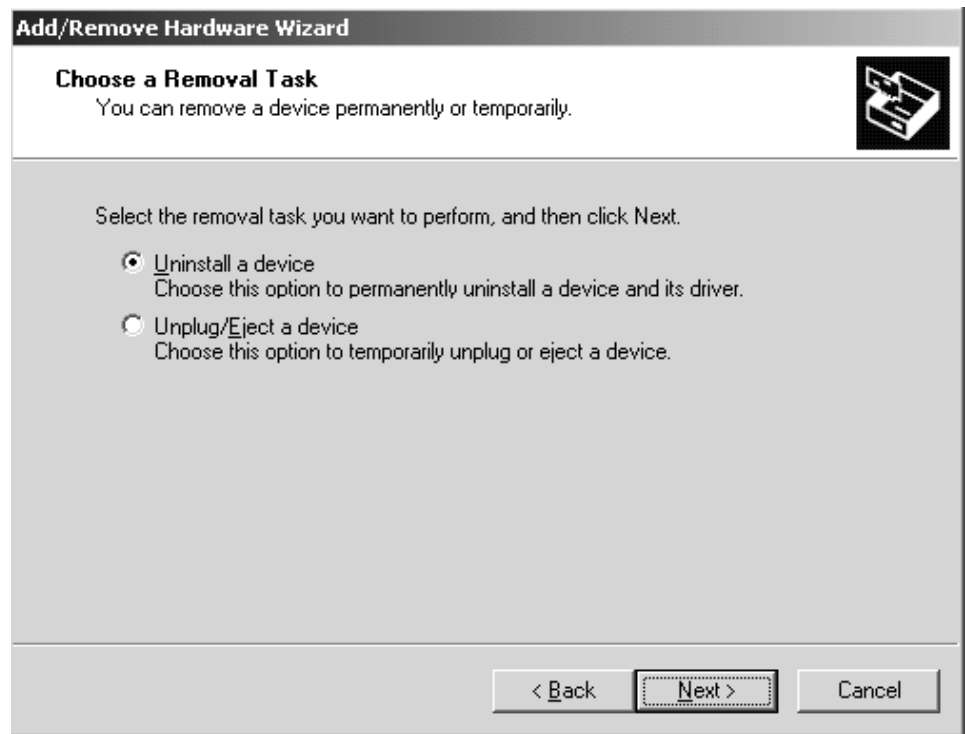

Figure 42. Uninstall a Device Menu
4. Select Uninstall a device, then click Next >. See Figure 42.